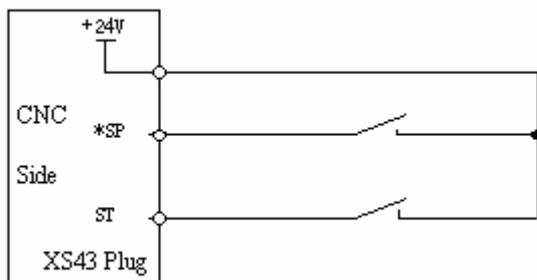

Fig. 4-11-2
- *SP, ST external circuit is as Fig. 4-11-2.